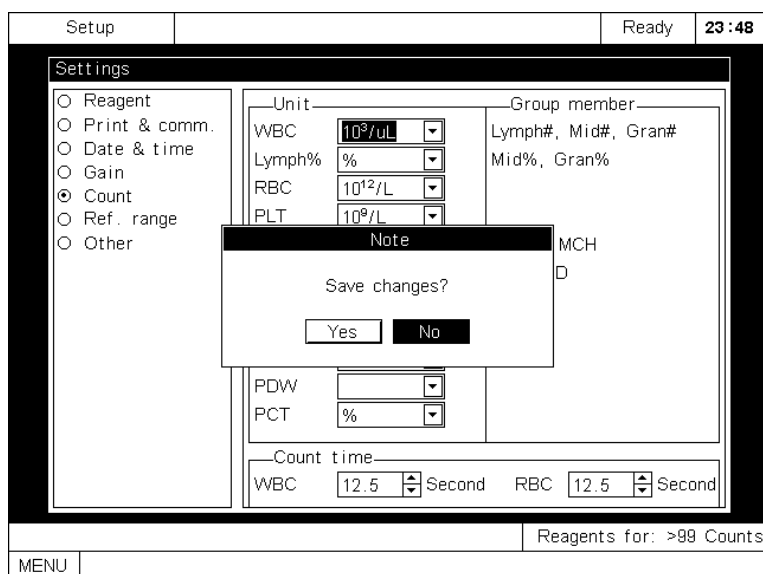

Figure 7-29 Saving changes
- press [MENU] and a dialog box will pop up to remind you to save the changes, as Figure 7-29 shows. Press [] or [] to move the cursor to **Yes** and press [ENTER] to save the changes and exit to the system menu or move the cursor to **No** and press [ENTER] to exit to the system menu without saving the changes.